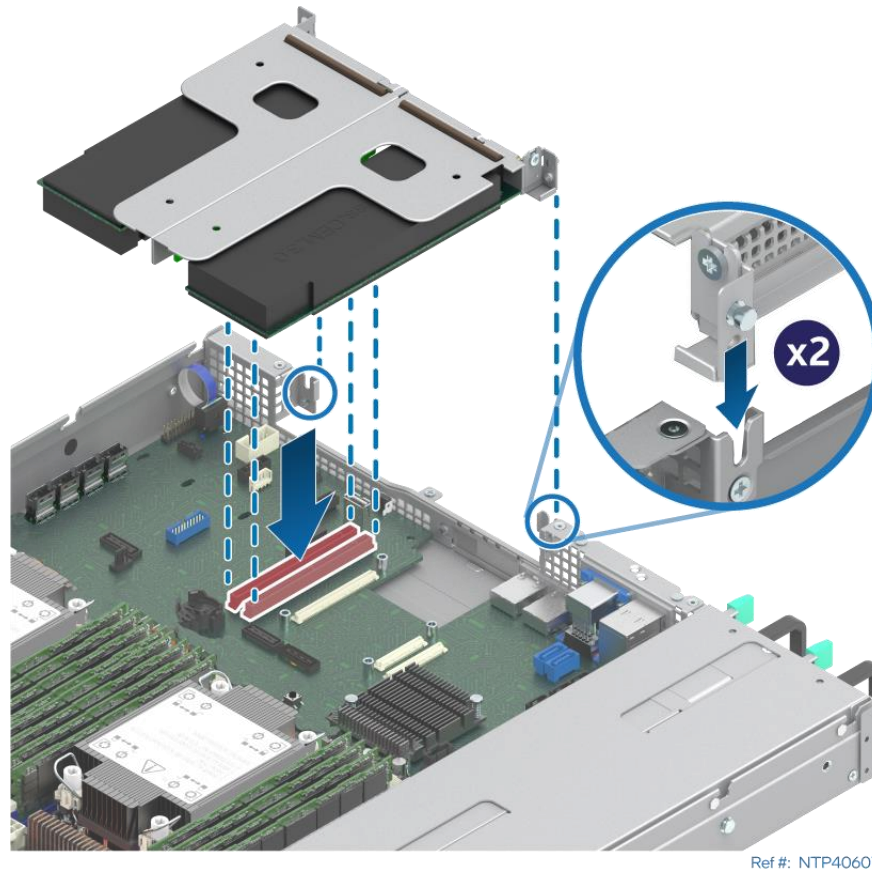

Figure 81. Riser Card Assembly Installation
10. Install the riser card assembly into the system (see Figure 81).
- Once aligned, press the riser assembly straight down into the riser card slots as shown in Figure 81.